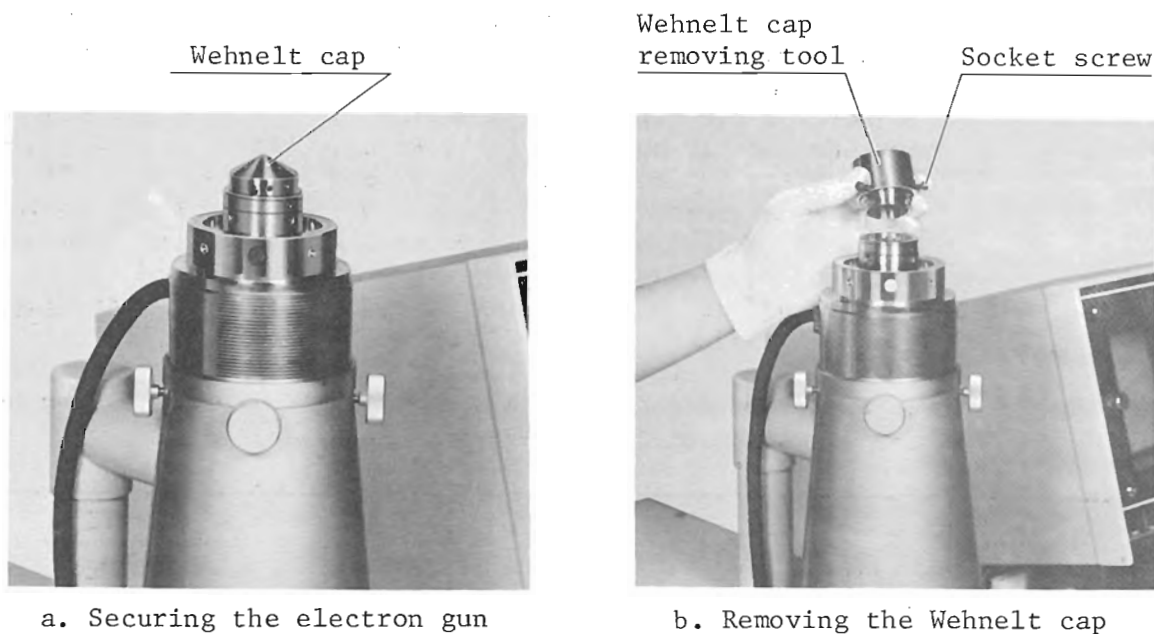

Fig. 5.2
3. Place the Wehnelt cap removing tool (hereafter referred to as the Wehnelt tool) over the Wehnelt cap, tighten the screws (see Figs. 5.2 and 5.4), and remove the Wehnelt cap from the Wehnelt unit base by pulling the tool.